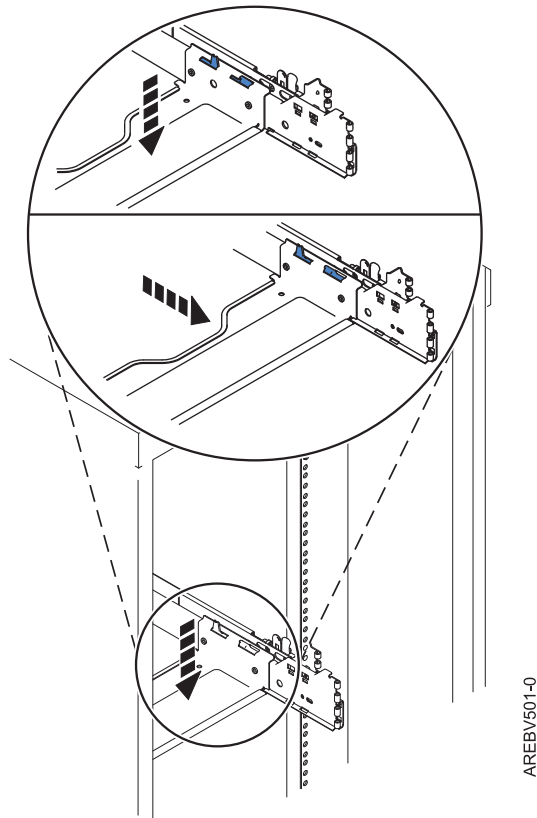

Figure 38. Installing the rear support bracket
8. Install the rear support bracket by placing over tabs in the rails and sliding backwards as shown in Figure 38 on page 45. This bracket adds rigidity to the slides.